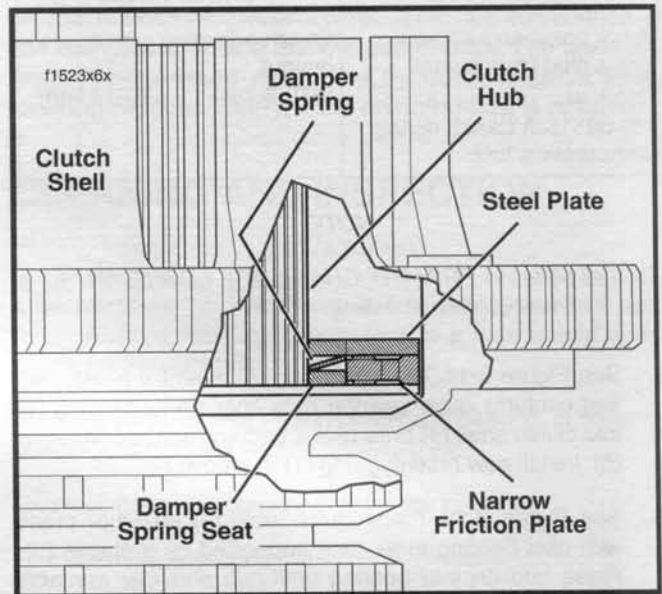

Figure 6-16. Clutch Pack Stack-Up (Cut-Away View)
2. See Figure 6-16. Remove six bolts to release diaphragm spring retainer from clutch hub.
1. See Figure 6-16. Install the narrow friction plate on the clutch hub engaging tabs on plate with slots in clutch shell.
4. See Figure 6-16. Holding the clutch hub, rotate the clutch shell to check bearing for smoothness. Replace the bearing if it runs rough or binds.